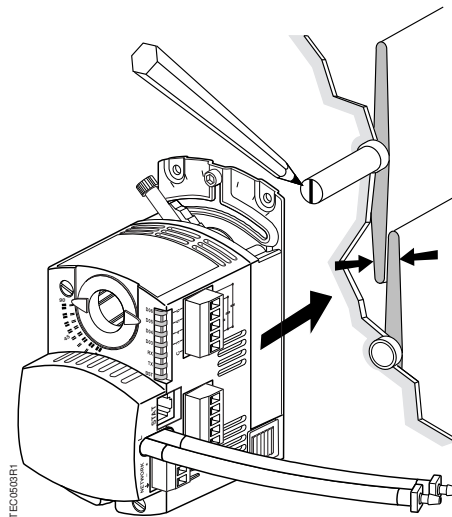

Figure 8. Mounting the Actuator.
3. Close the damper blades, Figure 8.
4. Mark the end of the damper shaft with a pencil/marker, Figure 8.
6. Mount the actuator on the damper shaft, Figure 8.